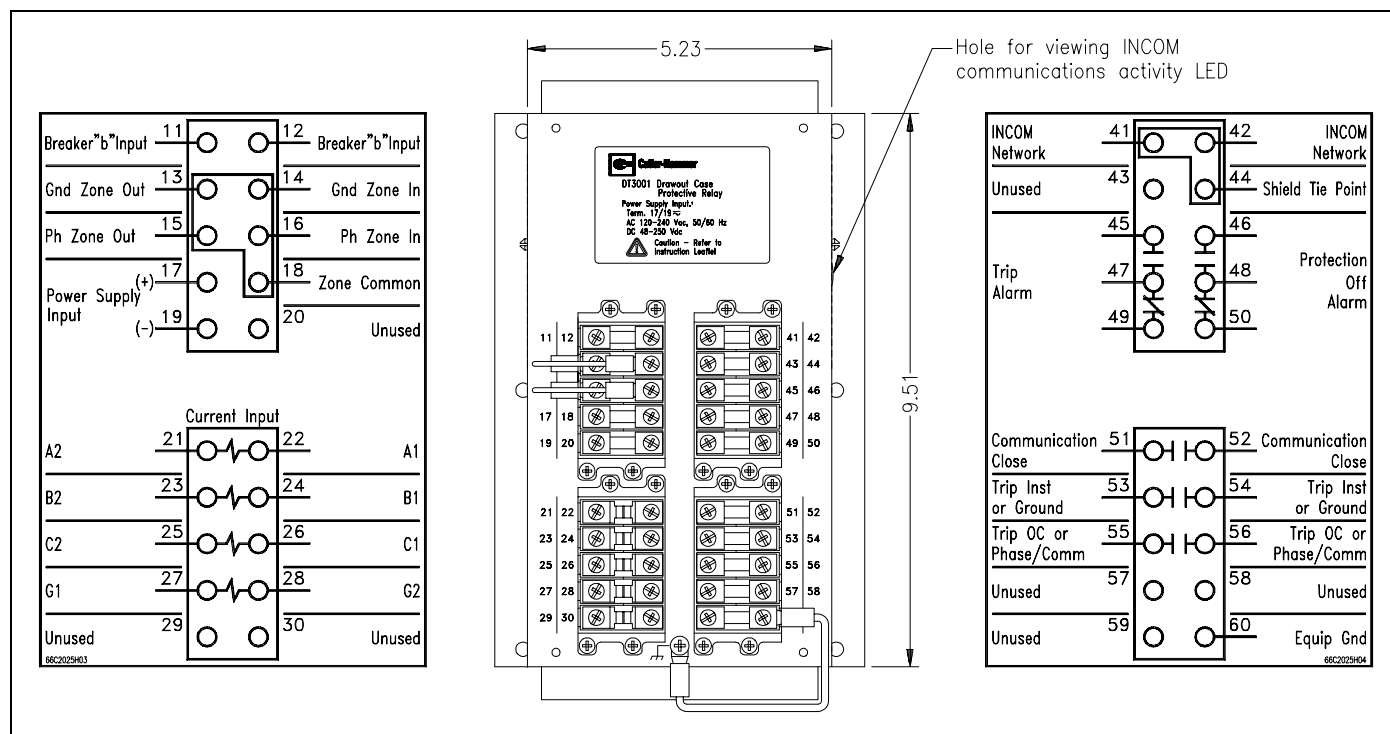

Fig. A-3 Rear View of DT3001 Drawout Outer Case
- 3.3.3 Refer to Figure A-3 below. Place the outer case flush against the backside of the panel so that the case studs project through their respective holes.